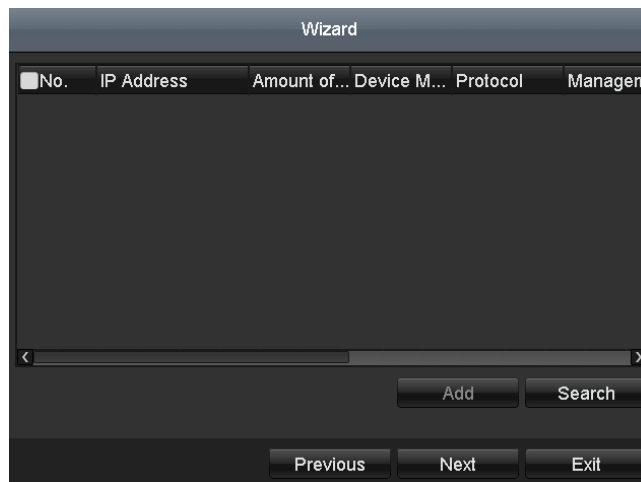

Figure 2-22 IP Camera Management
Step 7 Click **Next** button after configuring the advanced network parameters, which will take you to the **HDD Management** interface as shown in Figure 2-22.